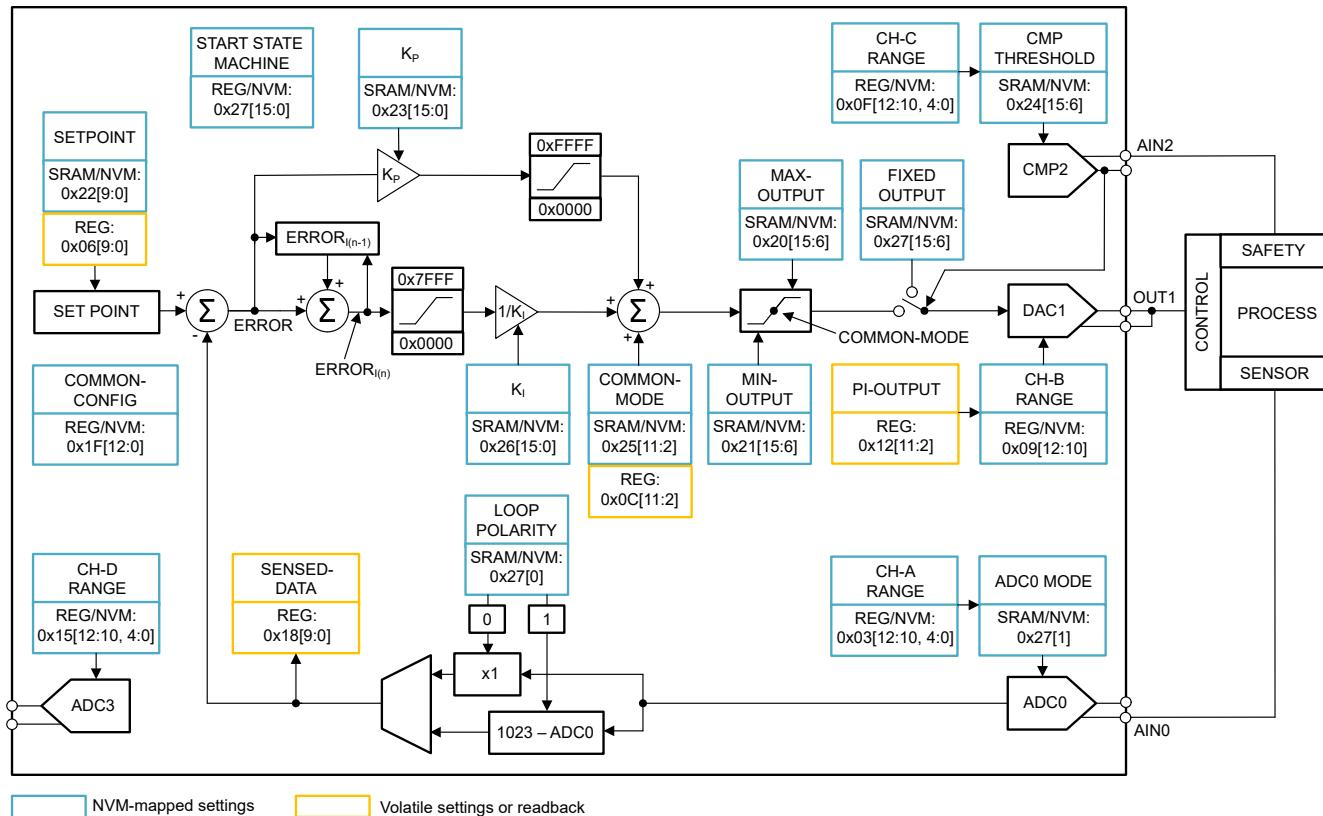

図 7-8. PI Controller Architecture
The AFE539A4 provides a preprogrammed PI controller state machine. 図 7-8 shows the PI controller architecture. ADC channel 0 is used as the input and DAC channel 1 is used as the output. DAC channel 2 is used as a comparator that is used to set the output of DAC channel 1 to a value specified by the FIXED-OUTPUT field. 表 7-9 lists all the input/output pin names and functions.
2. Connect the ADC input, comparator input, and DAC output as shown in 图 7-8.